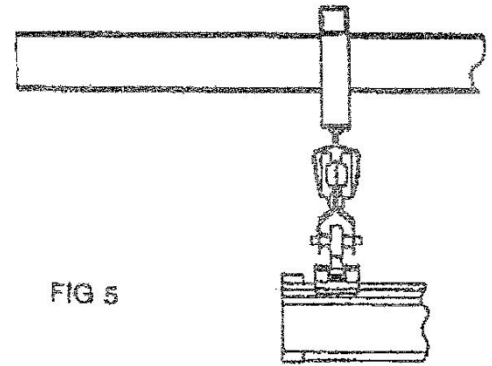

FIG 5
- 5.2 Attach bridge to runway trolley. Remove pin, align suspension clamp and re-insert (FIG 5)